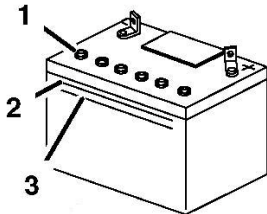

Figure 25a
1. Look at the side of the battery. The electrolyte must be up to the upper line (**item 2 Figure 25a**). **Do not** allow the electrolyte to fall below the Lower line (**item 3 Figure 25a**).
3. Remove the vent caps from the battery (**item 1 Figure 25a**)
4. Slowly pour distilled water into each battery cell until the electrolyte level is up to the Upper line (**item 2 Figure 25a**) on the battery case.